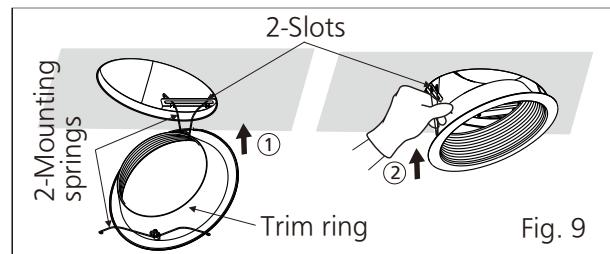

Fig. 9
13. Insert the mounting springs into the slot as shown in the figure and attach the trim ring to the fan body. (Fig. 9)
6. Replace the trim ring. (Fig. 9)
4. Replace the trim ring. (Fig. 9)